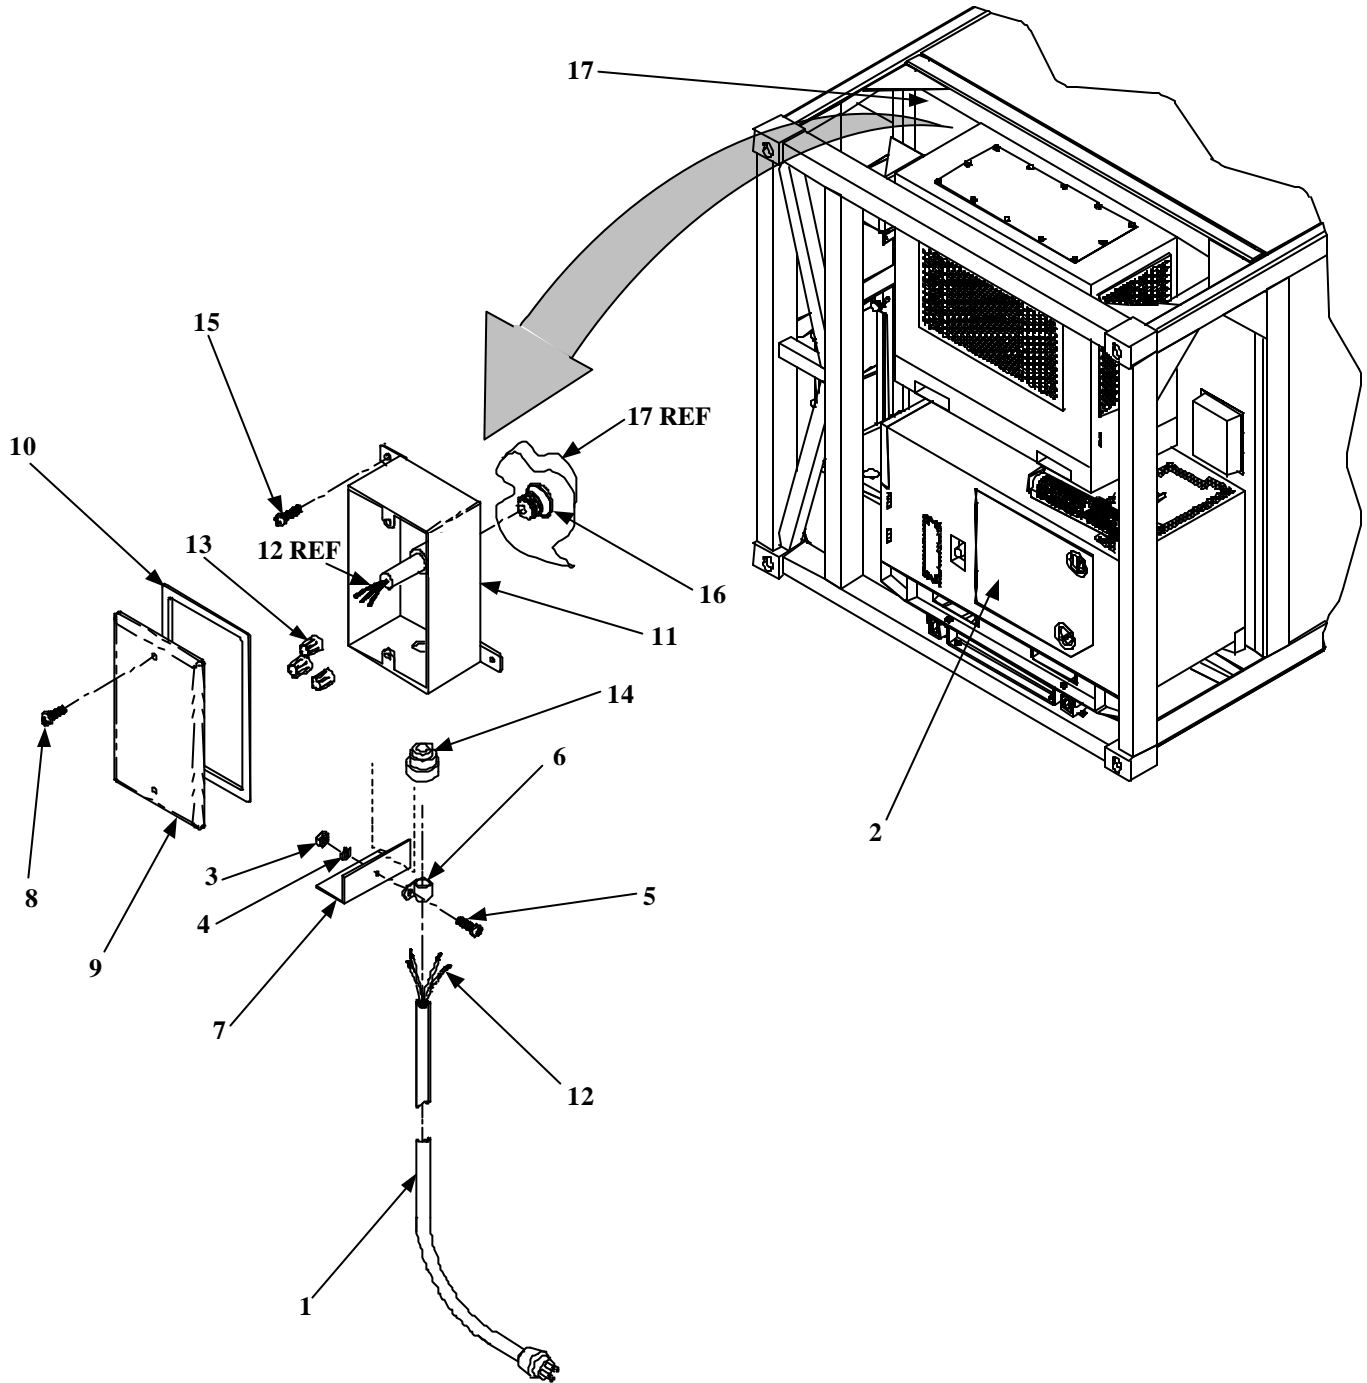

Figure 1. Light Assembly, Exterior
1. Install bushing (14, Figure 1) in box (11).
2. Apply sealant (Item 3, WP 0078 00) to threads of adapter (16).
3. Screw box (11) onto adapter (16).
4. Install box (11) on container wall (17) with two screws (15).
3. Tighten bushing (14, Figure 1).
4. Install gasket (10, Figure 1), cover (9), and two screws (8) on box (11).
5. Install clamp (6) on power cable (1) and secure clamp to bracket (7) with screw (5), lock washer (4) (Item 27, WP 0078 00) and nut (3).